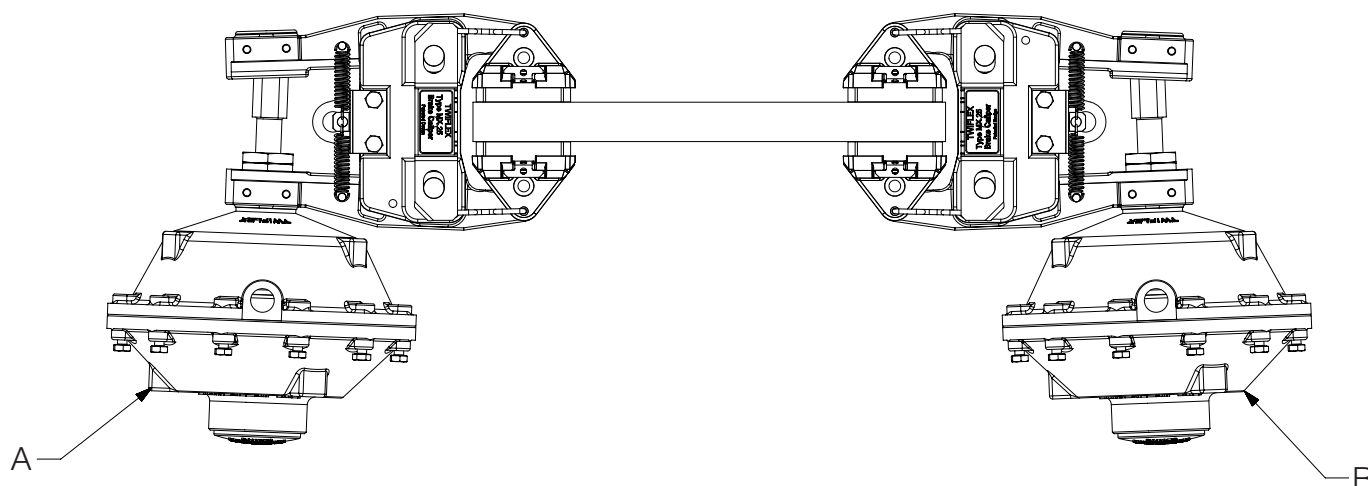

Fig. 2: (A) Right-hand and (B) left-hand assemblies
As an example, in the plan view (Fig. 2), two brakes are mounted at the 9 o'clock and 3 o'clock positions on a flat disc. The unit in position (A) is a right-hand assembly according to the convention above. The brake at (B) is assembled left-handed.